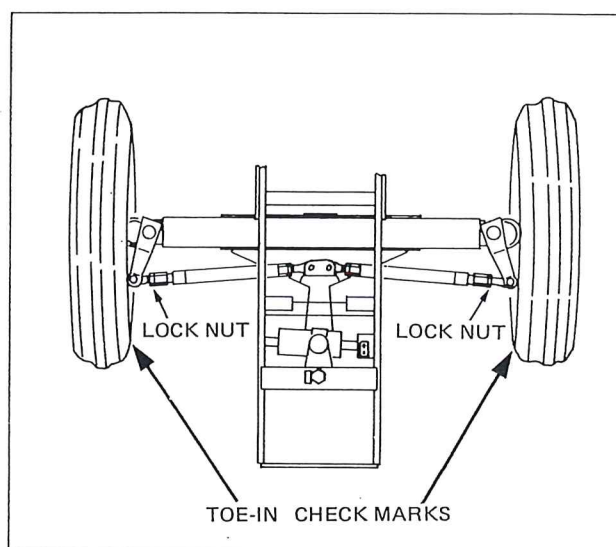

Figure 69 — Checking Toe-In
1. Determine the straight-ahead position by turning the steering wheel from lock to lock and then halfway back. After rolling the tractor forward with the front wheels in the straight-ahead position, mark the front of the wheels (not the tires) at wheel hub height, Figure 69.
4. The difference between the dimensions recorded in item 2 and 3 should give (0 — 5 mm) toe-in. The distance between the marks on the wheels should be 0 — 5 mm greater when the marks are at the rear than at the front.